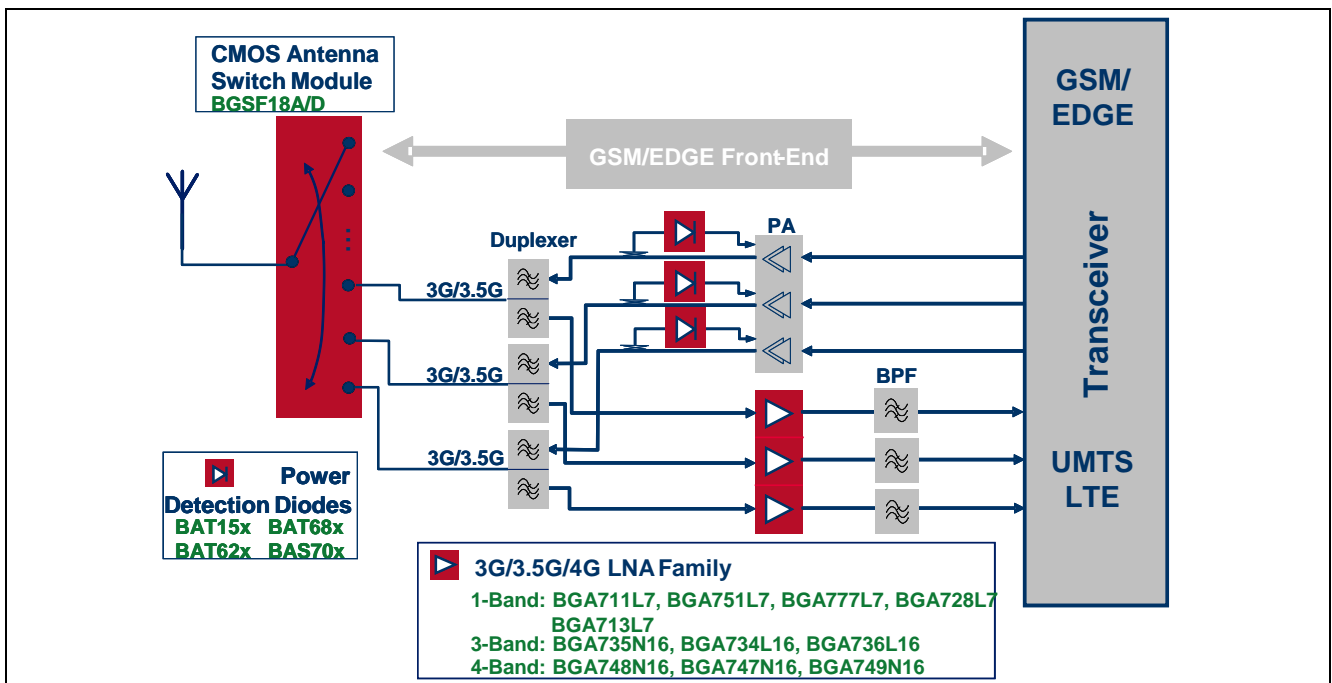

Figure 1 Application Diagram of a 3-band RF front-end for 3G and 4G systems.
Figure 1 shows an example of the block diagram of the front-end of a 3G modem. A SPnT switch connects on one side the modem antenna and on the other sides several duplexers for different 3G bands. Every duplexer is connected to the transmitting (TX) and receiving (RX) paths of each band. The external LNA, here for example BGA735N16, is placed on the RX path between the duplex and the bandpass SAW filter. The output of the SAW filter is connected to the receiver input of the transceiver IC.